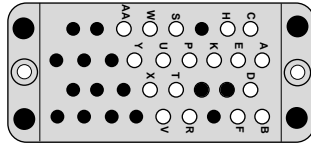

Figure 4-4 V.35 DCE Connector
V.35 DCE Connector Figure 4-4 shows the pin configuration of the V.35 DCE connector.